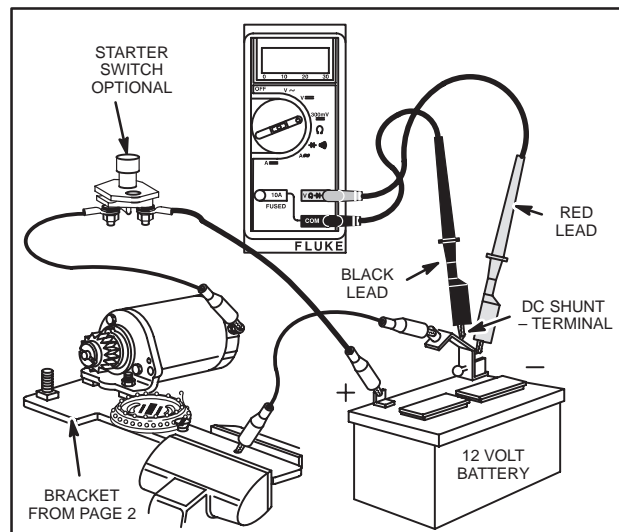

Fig. 696 – TESTING 12 VOLT STARTER MOTOR DIGITAL MULTIMETER
- Connect the starter motor, battery and meter as shown in Fig. 696.